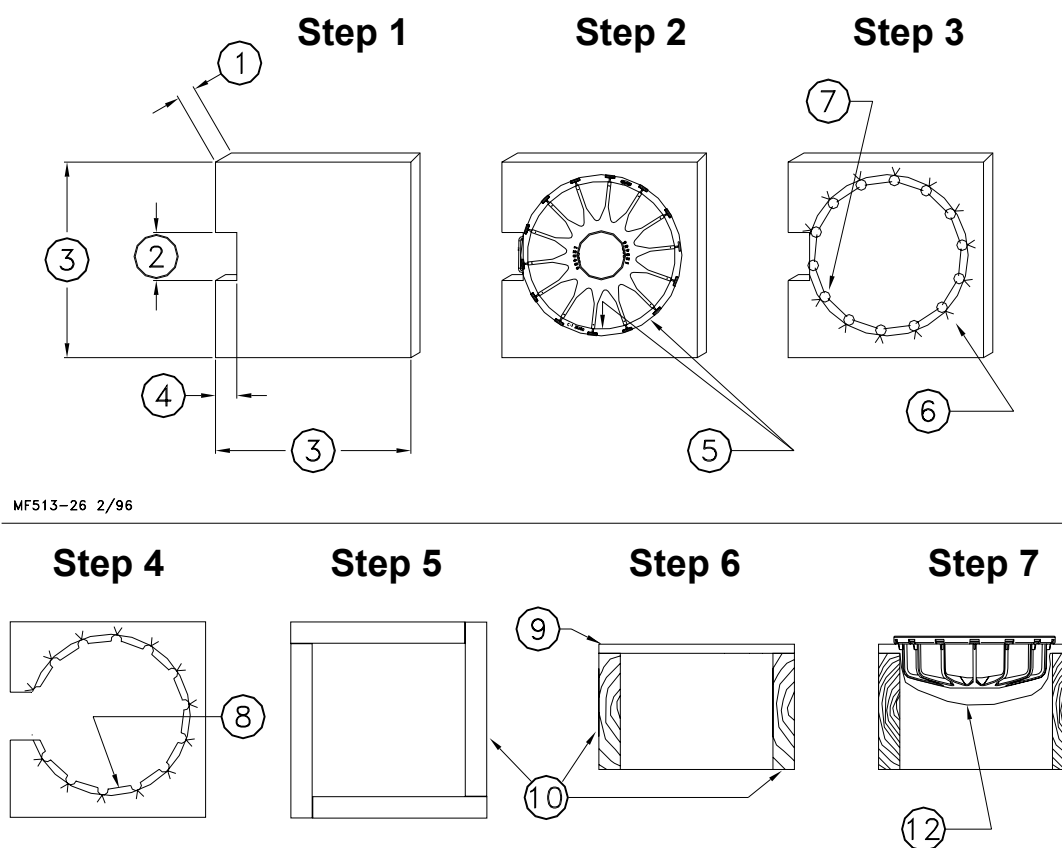

Figure 26. Box Construction
1. Cut a 3/4" (20 mm) piece of plywood 16" (400 mm) square, see **figure 26**.
Cut a 4" (100 mm) piece out of the middle of one side, see **figure 26**.
2. Center the grill on the 16" (400 mm) square piece of plywood. Use a pencil and draw around the outside edge of the grill as shown in **Figure 26**.
Use a 7/8" (22 mm) spade bit to drill a hole at each strut location, as shown in **Figure 26**.
4. Use a sabre saw to cut along the *inside* circle, between the 7/8" holes, **see figure 26**.
5. Use (4) 14-1/2" (370 mm) 2 x 10's (50 x 250 mm) to construct the box sides, **see figure 26**.
6. Nail the 3/4" plywood fixture to the box, **see figure 26**.
**Figure 26** shows how the grill should fit down in assembly box. NOTE: Board is cut away for clarity only.